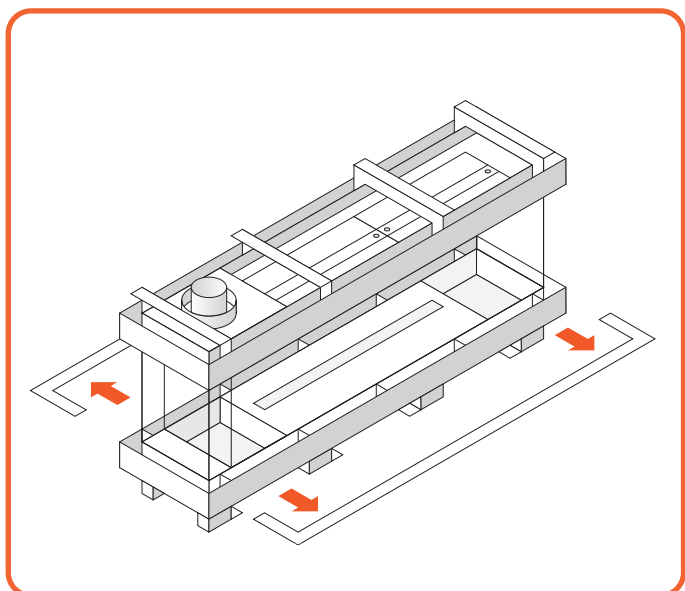

Figure 9.15 | Remove trims
- The Summum 140 4s has two decorative frames around the glass. These are held by magnetic snappers, (Figure 9.15) and can easily be pushed off the casing.